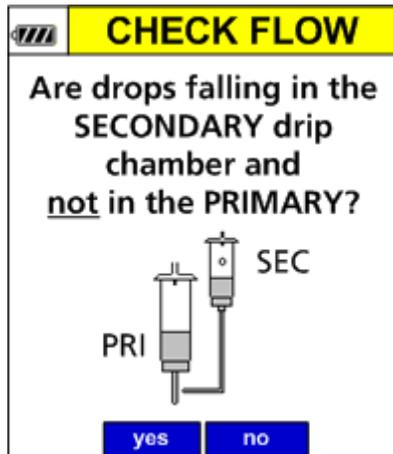

Figure 43. Secondary Check Flow at Run.
9. Confirm the flow from the secondary drip chamber (YES/NO). (See Figure 43.)